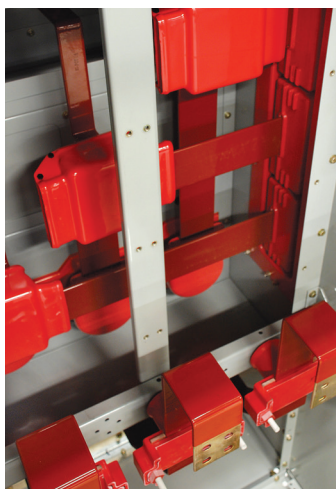
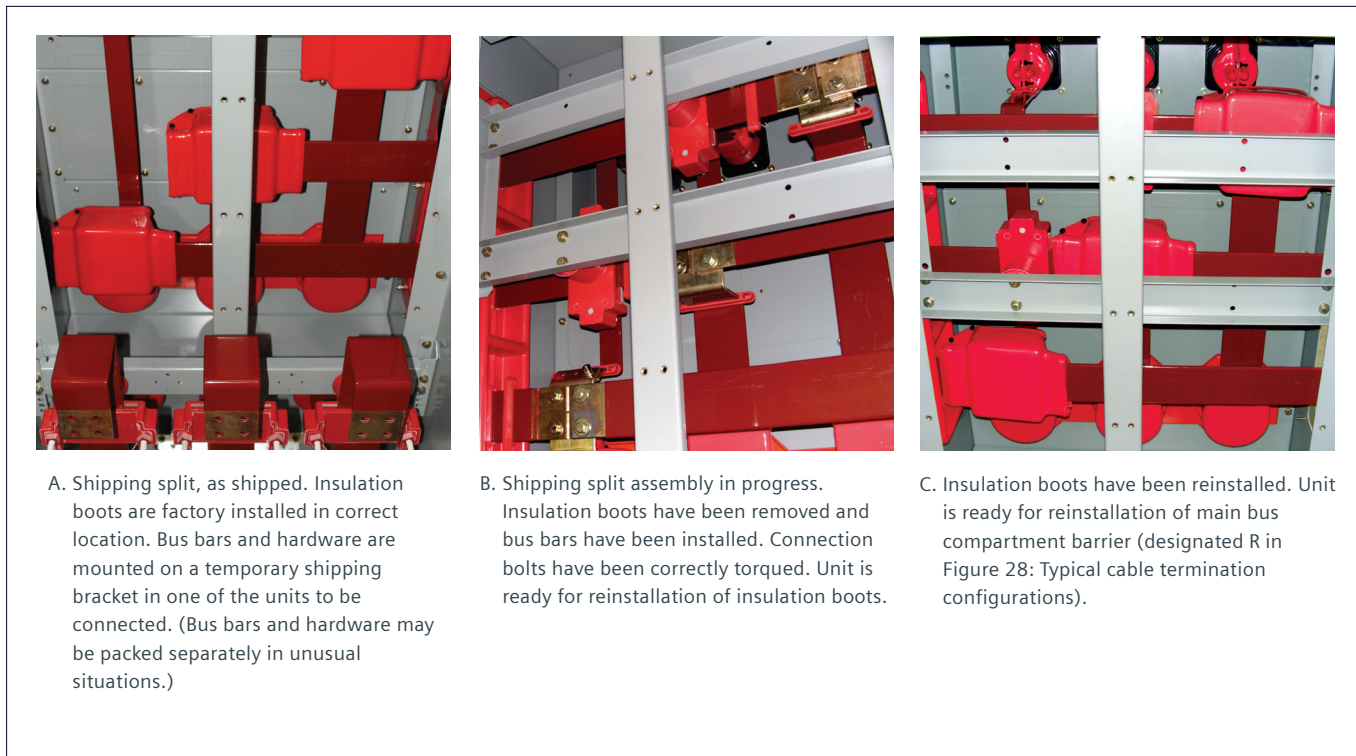

Figure 20: Main bus with insulating boots installed (bus compartment covers removed)
Figure 22: Connection of bus at shipping split
3. Before assembling any bus bar joint, check that the bus bar is inserted through bus supports (when required) and interunit bus supports, including neoprene grommets and insulator rings (inserts) when the option is furnished. Grommets (refer to Figure 20: Typical installation of insulating boot) are used to support the bus bars in the insulator rings (inserts). Observe the factory positioning of these grommets when connecting at shipping splits to ensure that bus bars will line up properly. Normally, the bus bar is oriented in the insert toward the front. Neoprene grommets are to be installed centered in the insert.
Standard and repetitive bus bar joints are normally provided with insulation boots installed at the factory (refer to Figure 20: Typical installation of insulating boot). After shipping split connections are completed in the field, bus bar joints at shipping splits must be insulated as part of the total insulation system. Normally boots are provided for field completed shipping split joints and are shipped in the location where they will finally be installed (refer to Figure 22: Connection of bus at shipping splits).